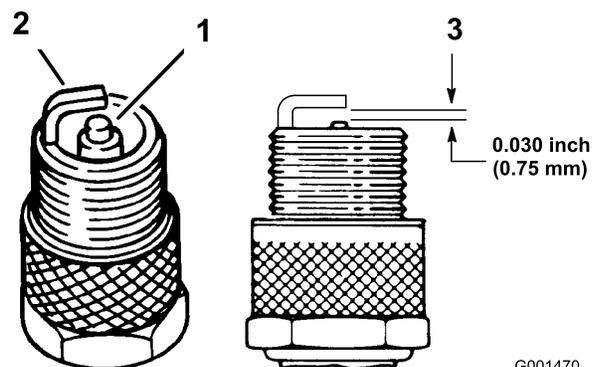

Figure 33
1. Look at the center of the spark plugs (Figure 33). If you see light brown or gray on the insulator, the engine is operating properly. A black coating on the insulator usually means that the air cleaner is dirty.
3. Check the gap between the center electrode and the side electrode (Figure 33). Bend the side electrode (Figure 33) if the gap is not correct.
3. Connect the wires to the spark plugs (Figure 33).